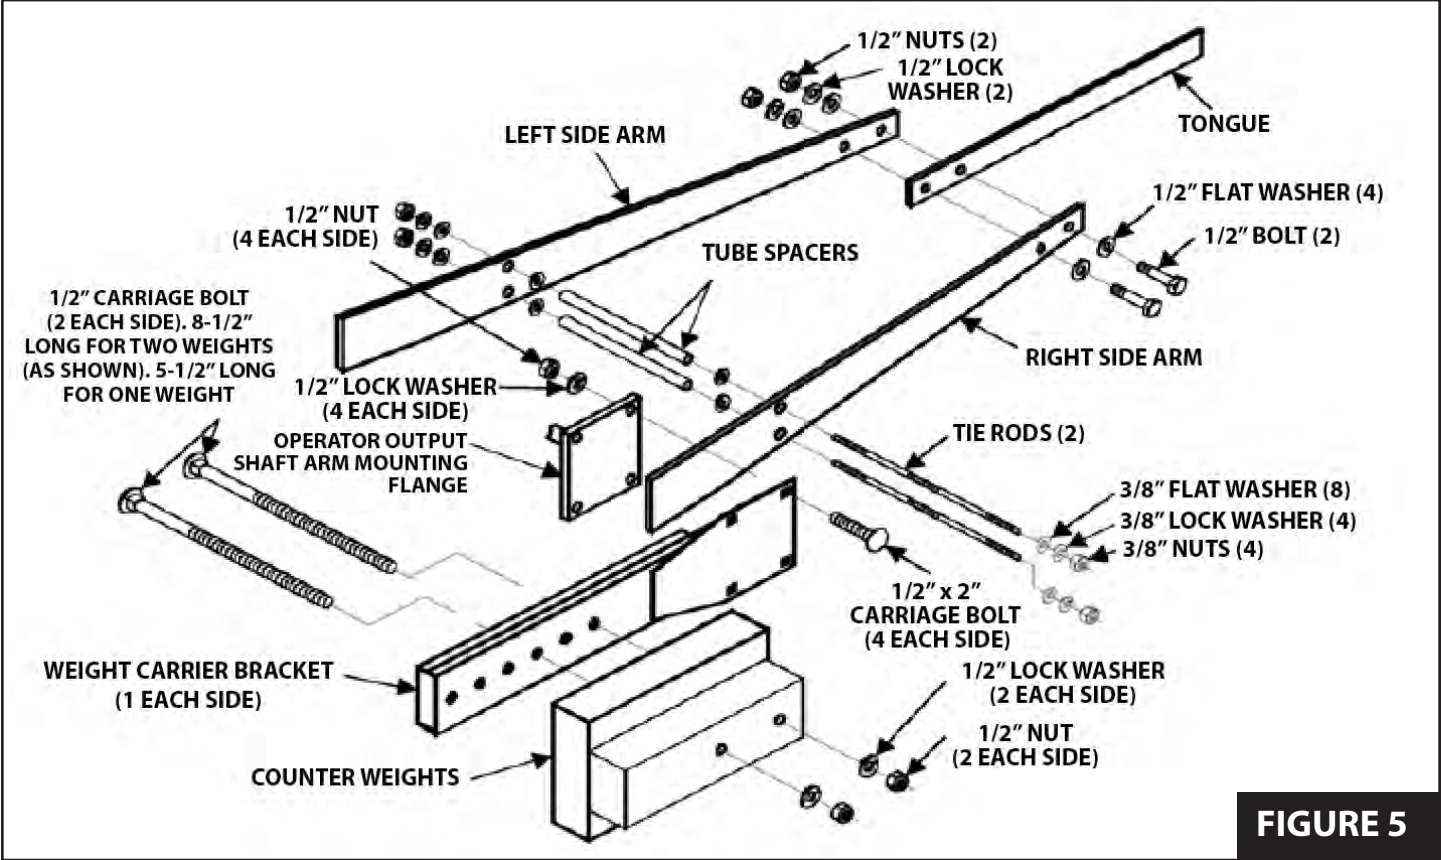

FIGURE 5
1. Install weight carrier brackets using 1/2" x 2" long carriage bolts, lock washers and nuts as shown in **Figure 5**. Do not tighten until told to do so.
4. Insert spacer tubes between arms and use the 3/8" threaded tie rods and 3/8" hardware to secure the assembly as shown in **Figure 5**.